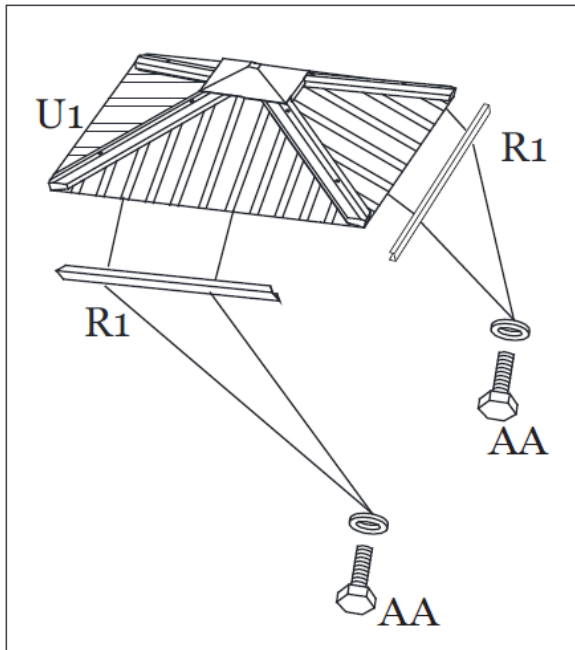

Figure 9-3
Step 9C: Attach the Roof Vent Trim (R1) to the Sides of Roof Vent Frame (P1) using Bolts (AA). Repeat for all sides. **Tighten all Bolts.** See Figure 9-3.